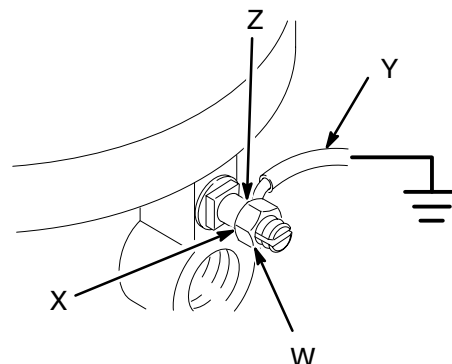

Fig. 1
- *Pump:* Use a ground wire and clamp. See Fig.1. Loosen the grounding lug locknut (W) and washer (X). Insert one end of a 12 ga (1.5 mm²) minimum ground wire (Y) into the slot in lug (Z) and tighten the locknut securely. Connect the other end of the wire to a true earth ground. For a ground wire and clamp, order Part No. 237569.